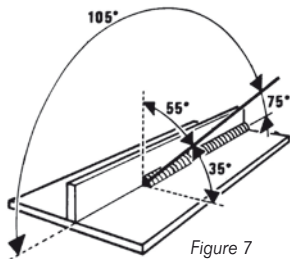

Figure 7
See figure 7 for the recommended welding position .
- See figure 7 for the recommended welding position.